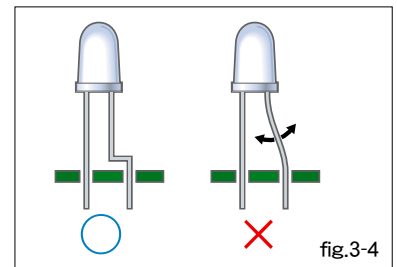

fig.3-4
- ④ Forming pitch should be adjusted to the device insertion hole-pitch on the PCB.
- ⑤ All forming must be performed prior to soldering.
- ⑥ Avoid excessive stress to the lead when mounting. (fig.3-4)